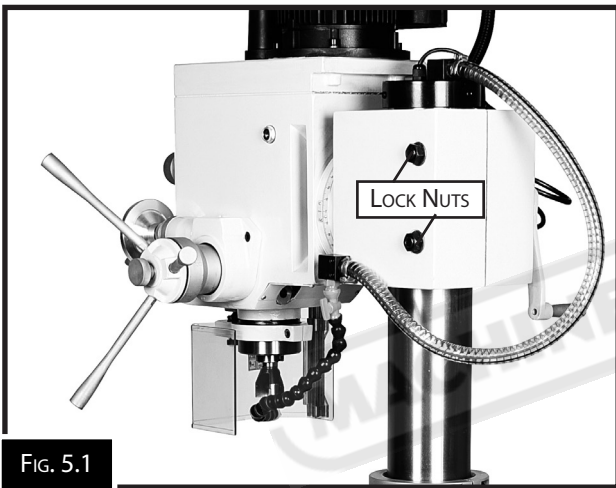

FIG. 5.1
2. Loosen both Z-axis lock nuts shown in Fig. 5.1